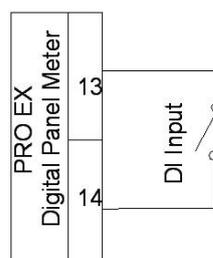

Fig. 1
is shown in Fig. 1
1.4.11.4 Remote Signal (DI) Input (Wiring diagram is shown in Fig. 1)
Remote signal wiring diagram is shown in Fig. 1